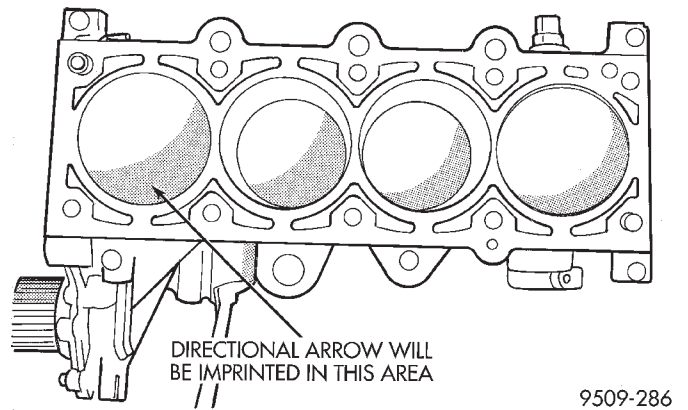

Fig. 90 Piston Markings
inder block. **Be sure to keep tops of pistons covered during this operation** . Mark piston with matching cylinder number (Fig. 90).
(4) The directional stamp on the piston should face toward the front of the engine (Fig. 90).
(5) Rotate crankshaft so that the connecting rod journal is on the center of the cylinder bore. Insert rod and piston assembly into cylinder bore and guide rod over the crankshaft journal.